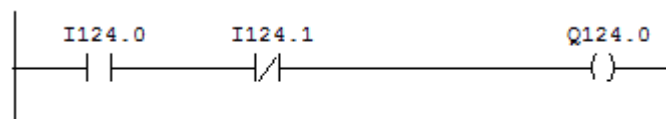

Figure 13. Ladder diagram of AND circuit
4. Configure ladder diagram for AND circuit as shown in Figure 13